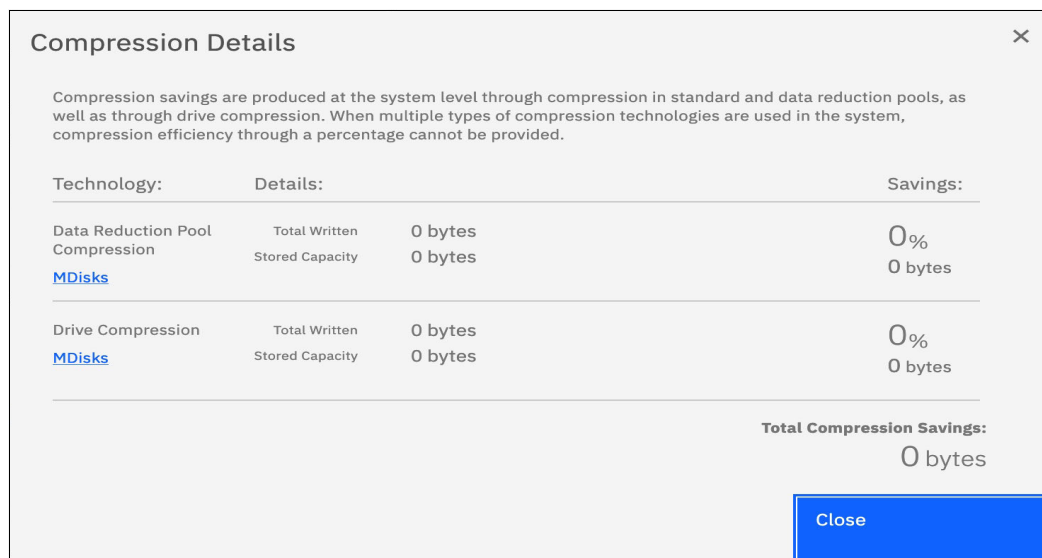

Figure 4-7 Compression savings dashboard report
- ▶ As the savings from DRP (compression and deduplication) that is provided at the DRP level, as shown in Figure 4-7.